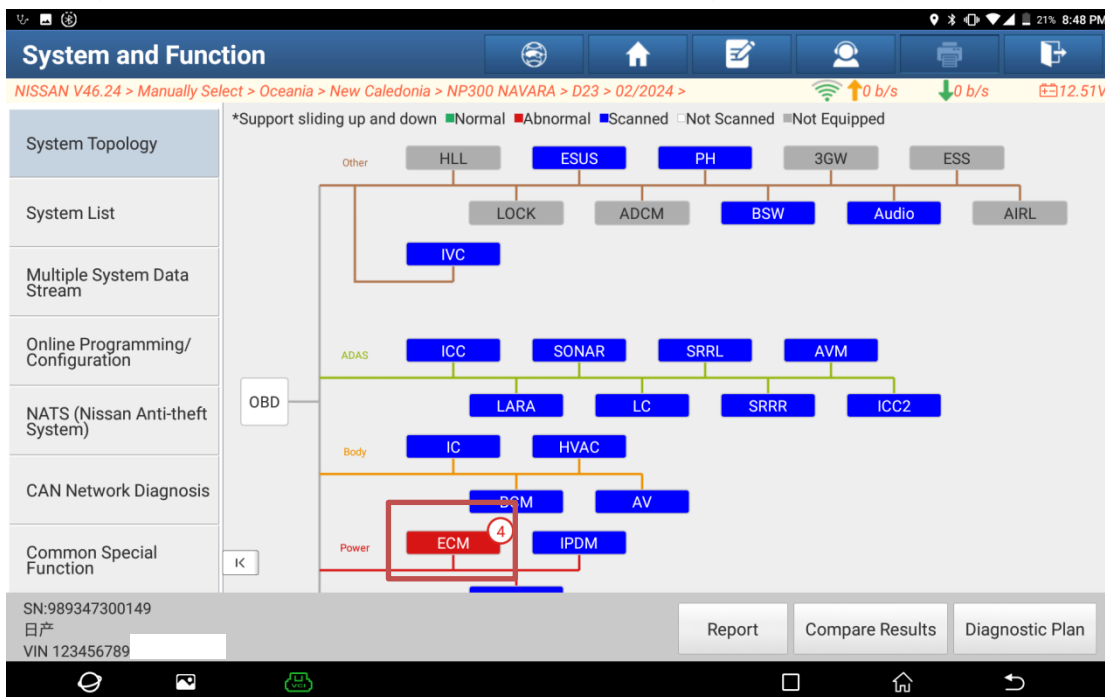
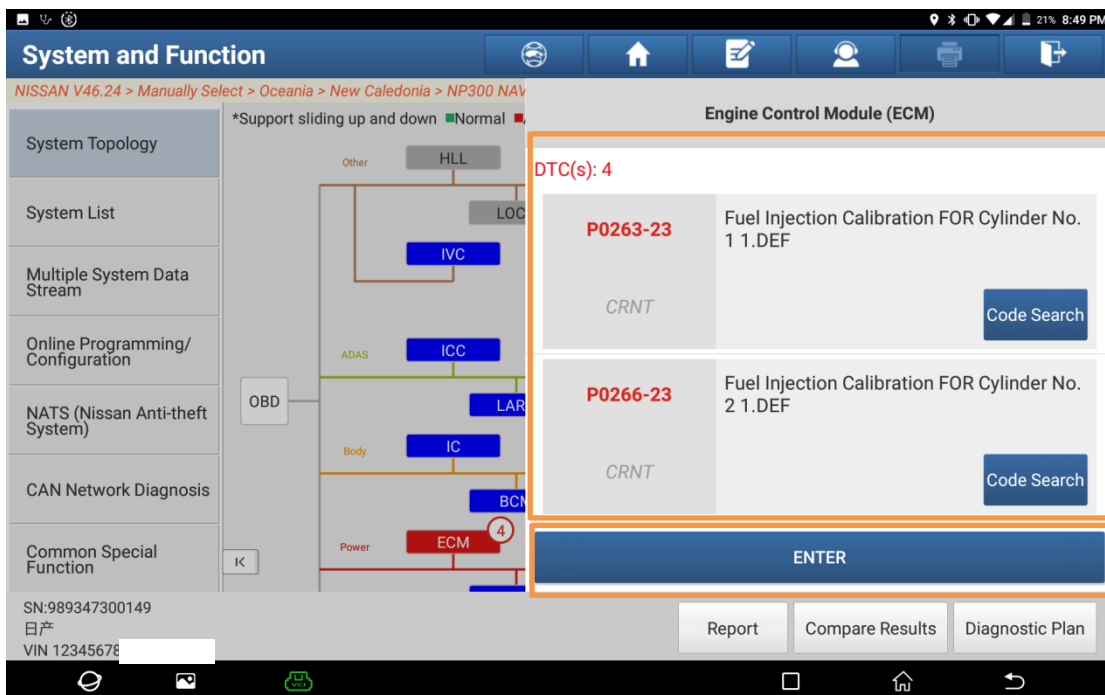
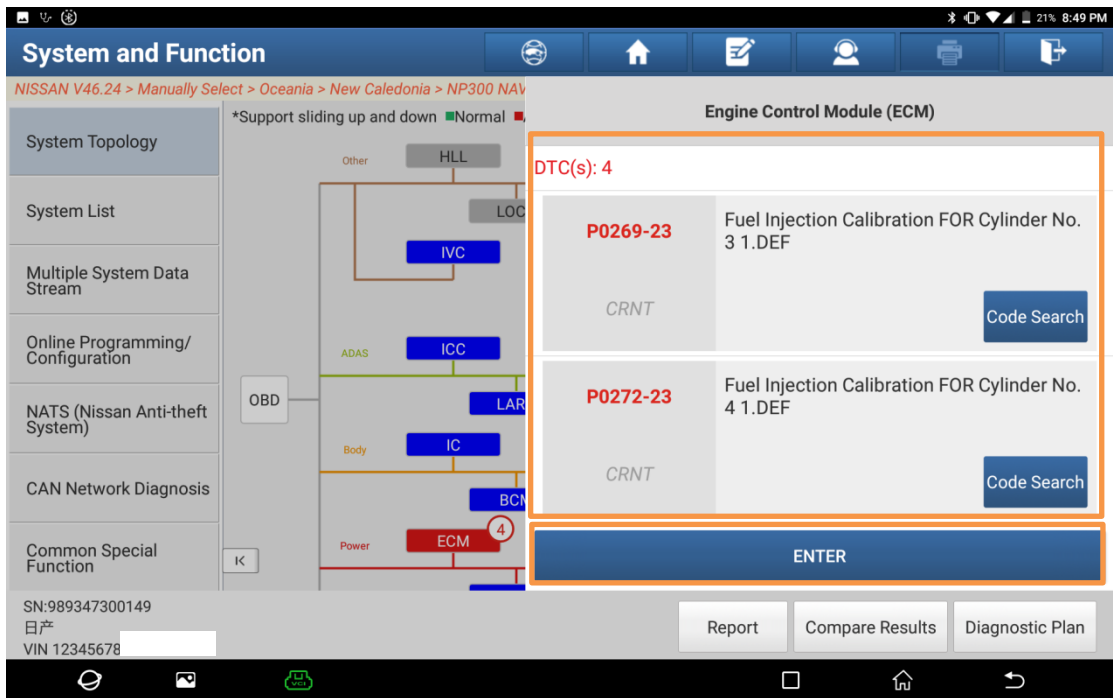

Figure 7
Figure 8
Figure 9
- 4. After the scan is completed, click [ECM] on the system topological graph (Figure 7) to display ECM DTC information (Figure 8 and Figure 9).